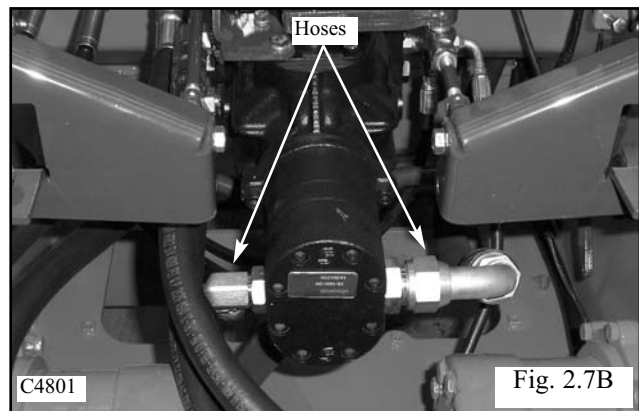

Fig. 2.7B
- 3 Disconnect the hydraulic hoses from the gear pump. (Fig. 2.7B) Remove the pump fittings. Cap all open hoses to prevent contamination. After capping ends you may unhook vacuum system from oil reservoir.